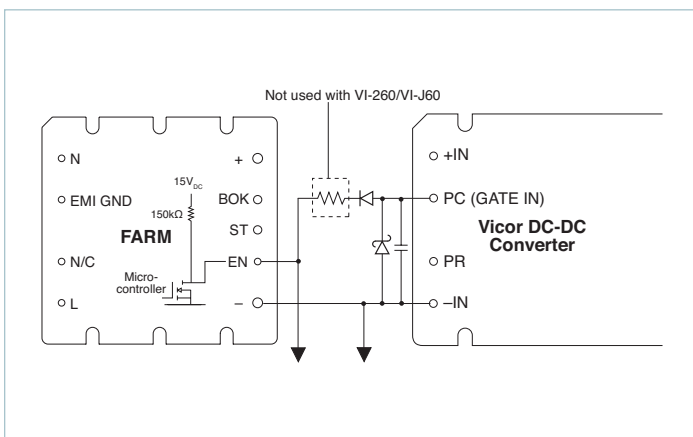

Figure 8.4 — Enable (EN) function
**Enable (EN) Pin:** (Figure 8.4) The Enable pin must be connected to the PC or GATE IN pin of all converter modules to disable the